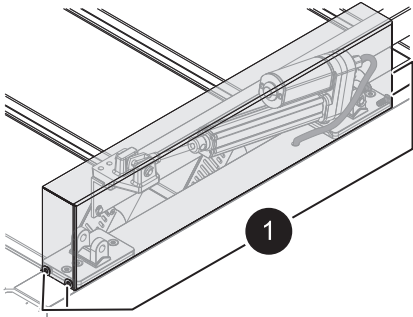

Fig. 20: Losen screws
3. Disassemble the actuator protection cover. For this purpose loosen the four hexagon socket screws (Fig. 20/1) and store them.